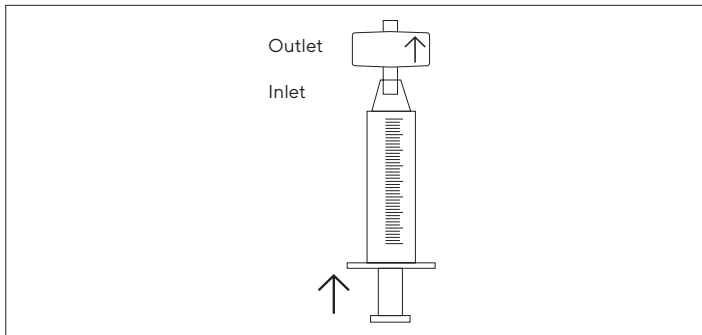

Fig. 3: Filling the Sartobind[®] Pico with a Luer syringe
- ▶ Hold capsule upright (outlet is up) and expel air as shown in Fig. 3.
- ▷ Now the Pico product can be connected to a liquid chromatography (LC) system or a peristaltic pump (for whole procedure with syringe without LC system, refer to 5.4 Operation With Syringe).